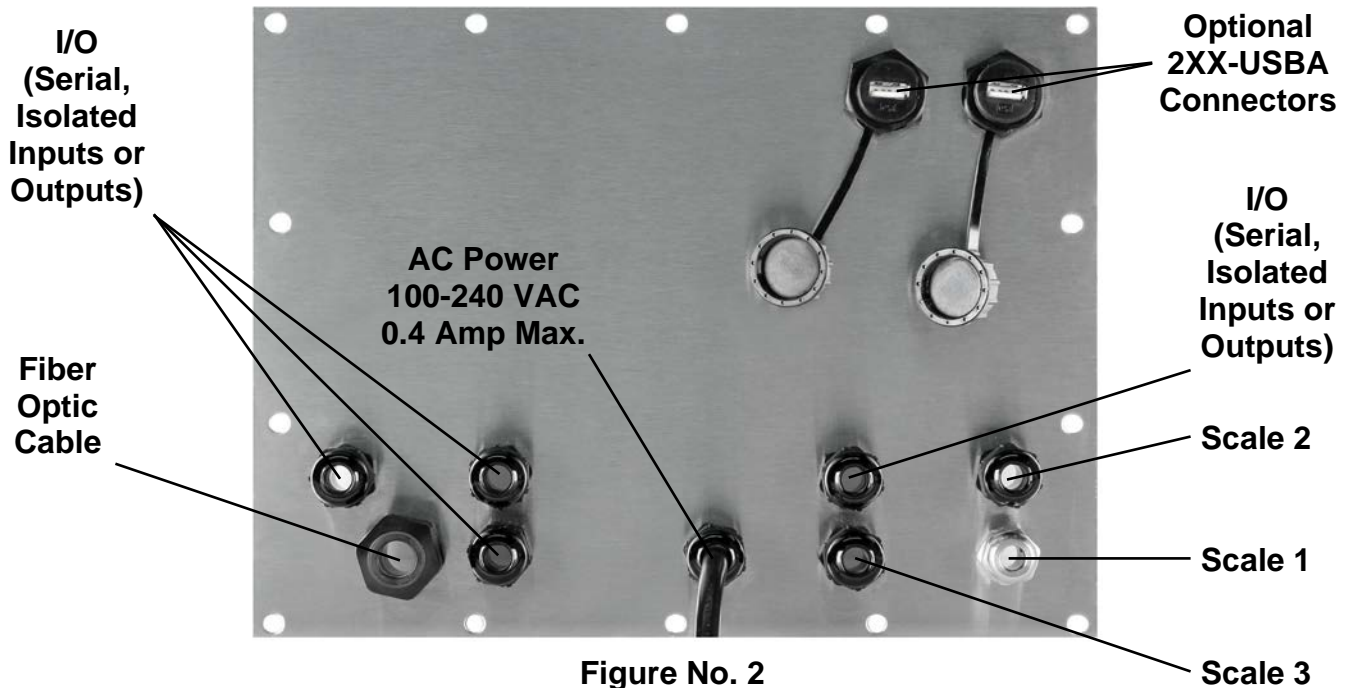

Figure No. 2
To eliminate RFI, the load cell cable should be routed through the special metallic gland connector, and the shield wire from the load cell cable must be connected to this gland connector for grounding. Refer to Figure No. 2 for the gland connector layout.
2. Referring to Figure No. 2, choose a gland connector for the load cell cable and loosen it.
2. Loosen the gland connector for the serial cable. Refer to Figure No. 2 for the gland connector layout.